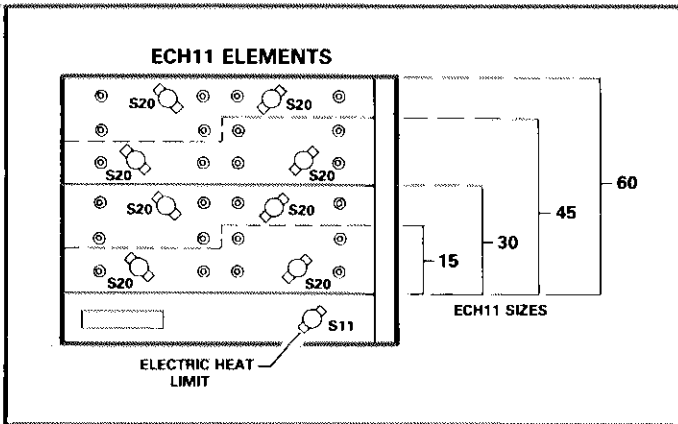

FIGURE 20
- 3 - The Electric Heat Limit (S11) drops out all the elements when temperature exceeds setpoint. ECH11 heaters are protected by one time limits (S20). See Figure 20 for location of limits.